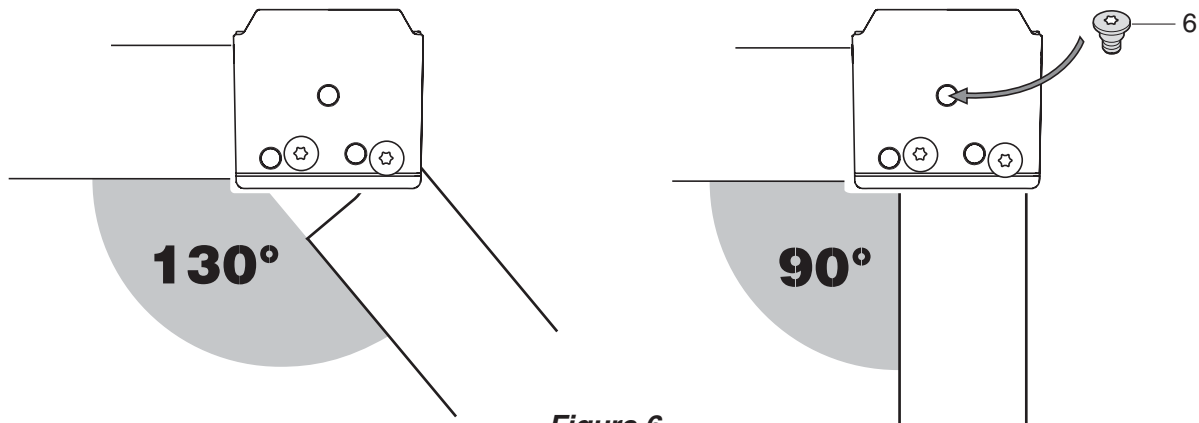

Figure 6
Door Opening Angle - Figure 6
- Insert the attached screw (6) in the **upper** hinge as shown in **Figure 6**.